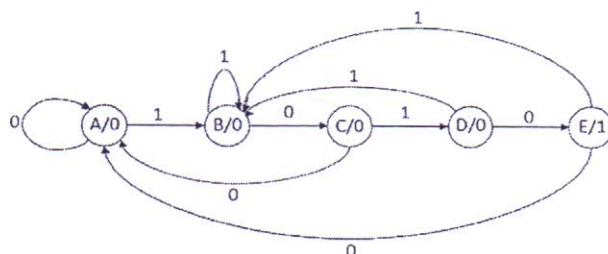

Fig. 7(a)
Explain how the state machine shown in Fig. 7(a) can be used to detect "1010" (non-overlapping). Comment whether the state machine type is Mealy or Moore type.
b) Write Verilog code for the state machine shown in Fig. 7(a).